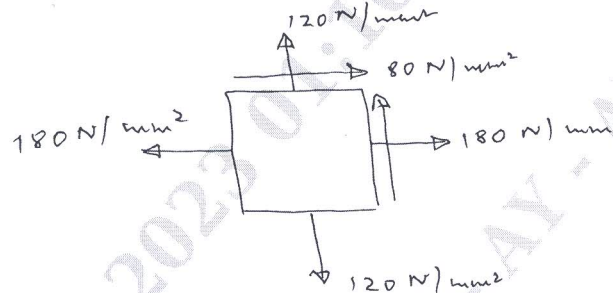

Fig.Q4(c)
- c. The state of stress at a point in a strained material is as shown in Fig.Q4(c). Determine